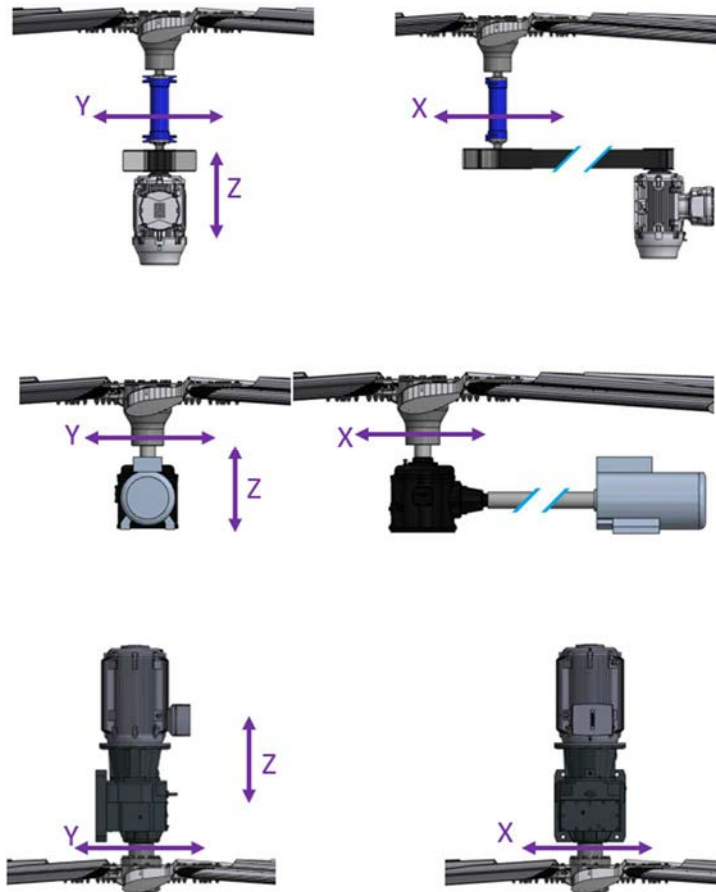

Figure 3.1: vibration control positioning schematics
2. Check that fan vibration level, measured on the fan bearing block, in positions indicated by figure 3.1, do not exceed amplitudes of 7mm/s RMS (overall).
- G. Check that fan vibration level, measured according to fan shaft bearing assembly, in positions indicated by figure 3.1, do not exceed amplitudes of 7mm/s RMS (overall). In case the limit is surpassed, shut down the fan and search for the excessive vibration cause referring to paragraph 4.3 (possible cause of vibration).